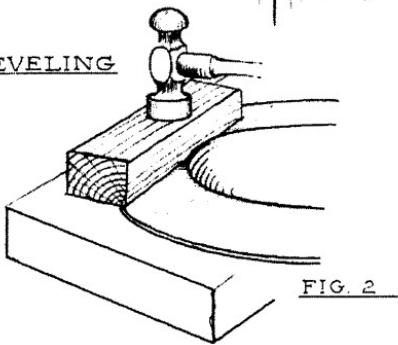

FIG. 2
5. Straighten the plate (Fig. 2).